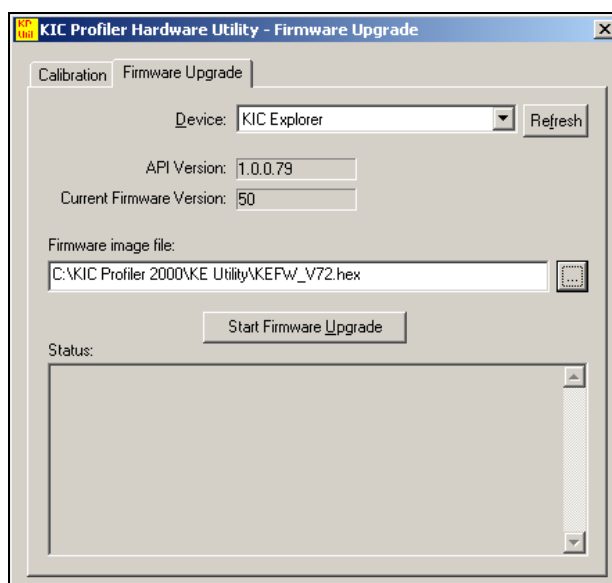

Figure 222
4. When you have selected the firmware file it will be displayed in the *KIC Explorer Firmware Image File* field. See Figure 222.
5. Select the “Start Firmware Upgrade” button to begin the flash process. See Figure 222.